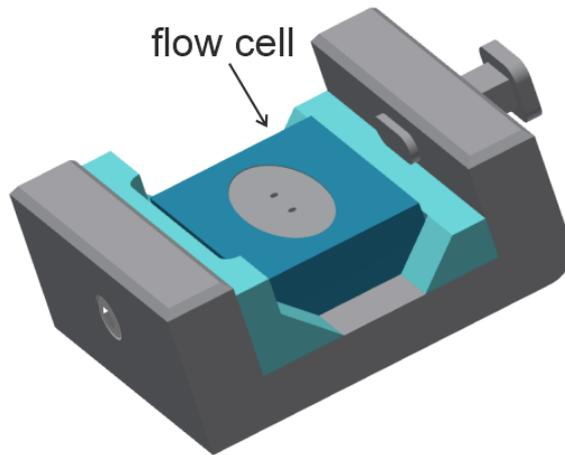

Figure 3. The magnetic holder for the flow cell.
2. Clean the flow cell with soft paper or cloth napkins dampened with ethanol. Place the tubes on the inlet and outlet of the flow cell. Fix the flow cell with tubes in the magnetic holder (**Figure 3**).
- 3) Place the magnetic holder *with the flow cell installed* (as shown in **Figure 3**) to the prism *with the sensor chip attached (through the oil viscosity)* and turn the lever on the left side of the Biosensor's optical unit counter-clockwise. **Note:** *Be sure that the sensor chip encloses the flow cell completely and will not leak.* Due to magnetic forces, the flow cell will be